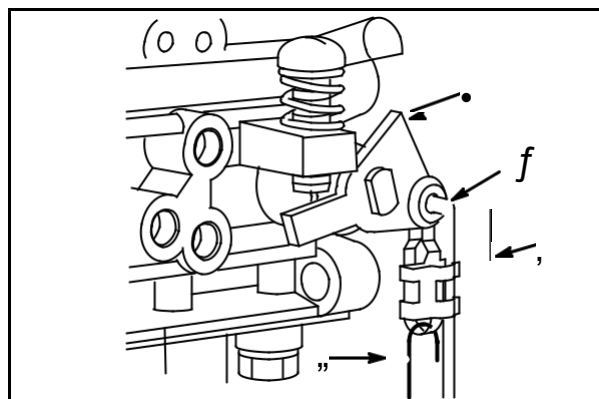
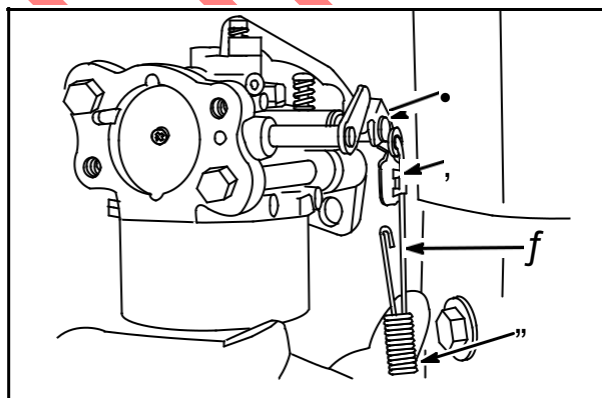

Fig. 26
Fig. 25
Connect governor link (3) to throttle lever (1). Snap retainer (2) over link, **single barrel carburetor, Fig. 25**, **two barrel carburetor, Fig. 26**.